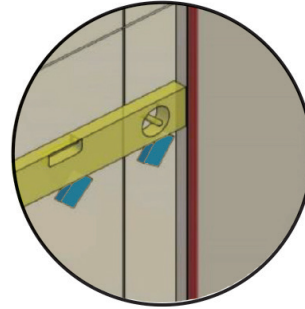

FIG 18.
- Remove backing from stabiliser blocks and press firmly onto wall (FIG 18).